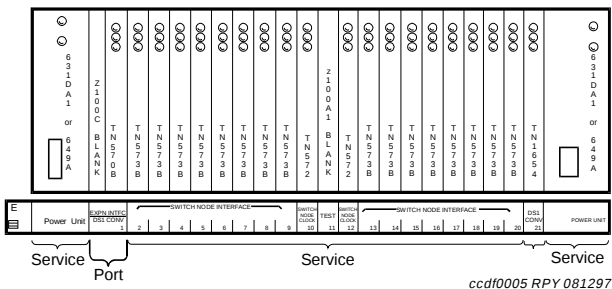

Figure 36. Switch Node Carrier (J58890SA) (Front)
The switch node carrier (SN) (J58890SA) is used in Release 6r only. See Figure 36. The SN contains the switch node clock and the SNI circuit packs that compose the CSS. It can contain up to 16 SNI circuit packs; 1 or 2 TN1654 DS1 converter circuit packs and/or an EI circuit pack; and 2 AC or DC power unit circuit packs